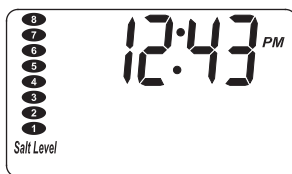

FIG. 33
3. Press the SET SALT LEVEL button until black ovals correspond to the salt level number (See Figure 33). At level 2 or below, the "Check Salt Level" LED indicator will flash.